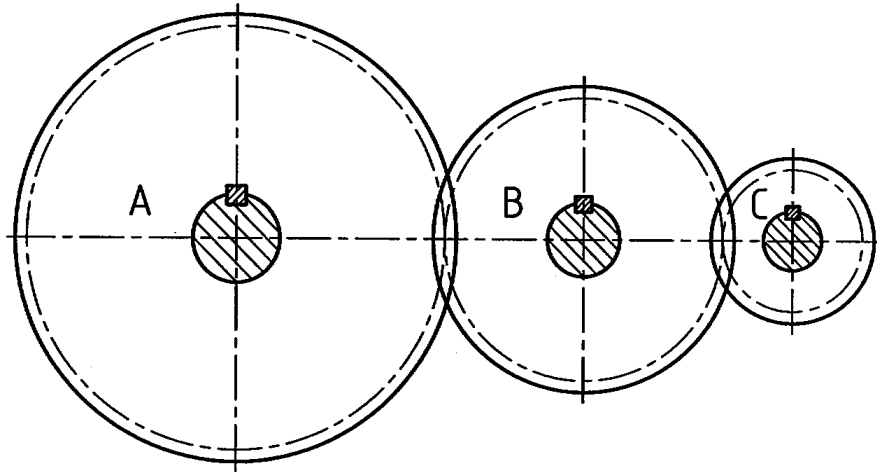

FIG. 3
3. (a) Fig. 3 shows a spur gear train. Draw the following table on your sheet and complete it by inserting the missing gear train information.